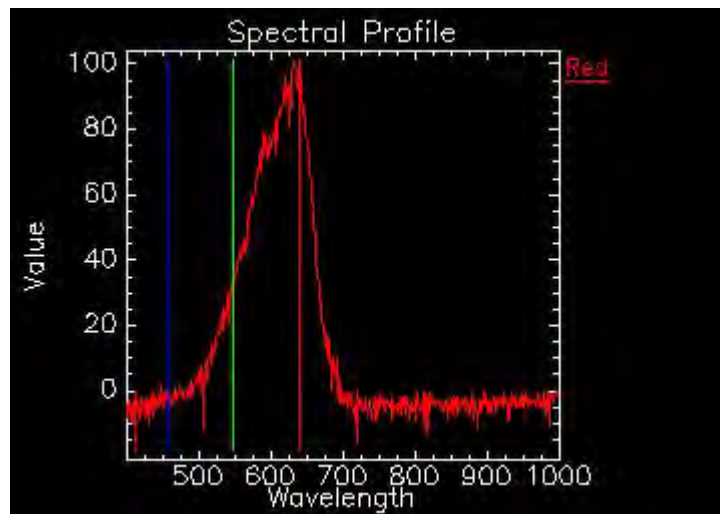

Figure 5. Labeled plot
- e. Click Apply and then close the edit window (see Figure 5)